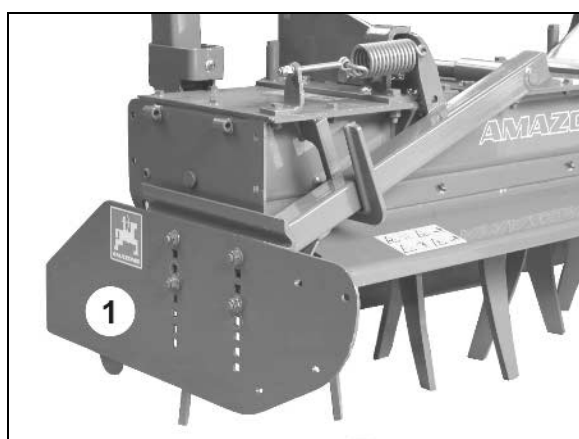

Fig. 16
- Swivellable side plates (Fig. 16/1).